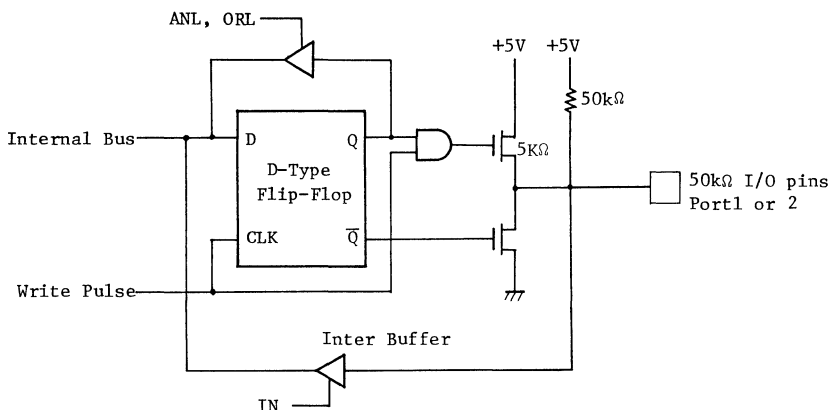

Fig.1 Input/Output Circuit of Port 1, Port 2
- All lines of Ports 1 and 2 are called quasi-bidirectional because of a special output circuit structure (illustrated in Figure 1). Each line is continuously pulled to a +5V level through a high impedance resistive device (50K $\Omega$ ) which is sufficient to provide the source current for a TTL high level yet can be pulled low by a standard TTL gate thus allowing the same pin to be used for both input and output. In order to speed up the "0" to "1" transition a low impedance device (5K $\Omega$ ) is switched in momentarily whenever a "1" is written to line. When a "0" is written to line a low impedance device overcomes the pullup and provides TTL current sinking capability.